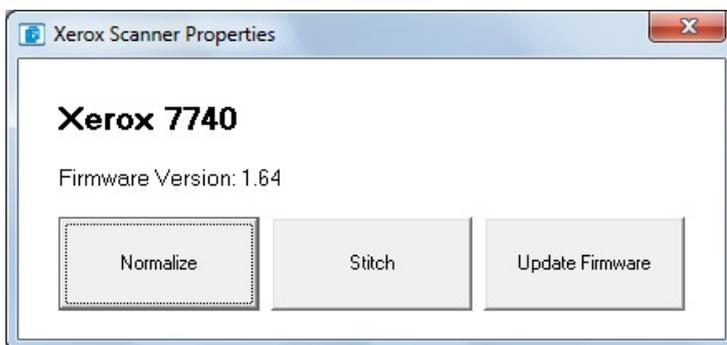

Fig 1-12
1. In **Settings**, click [Properties] to access **Xerox Scanner Properties** (Fig 1-12).